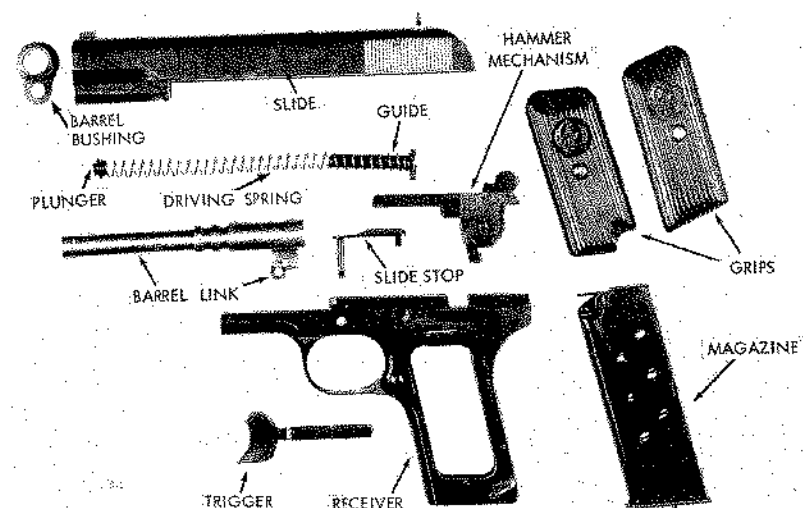
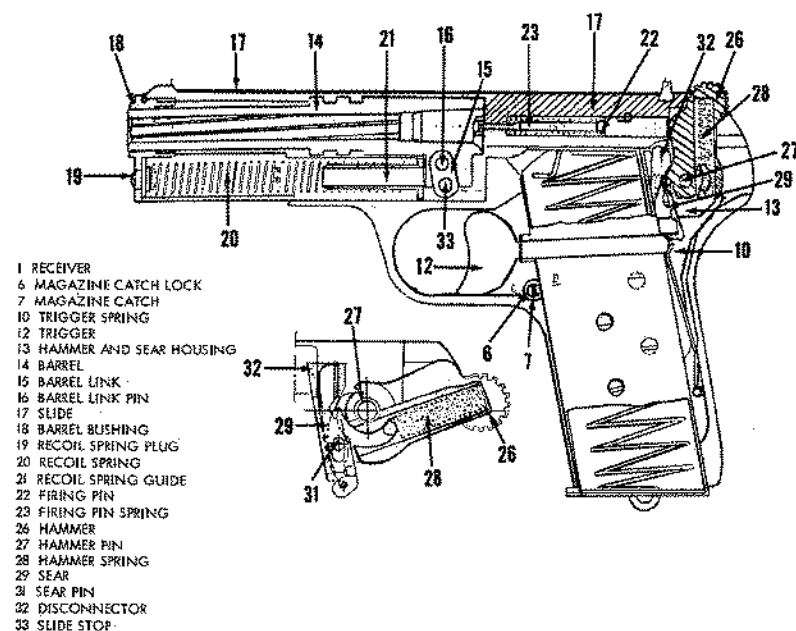
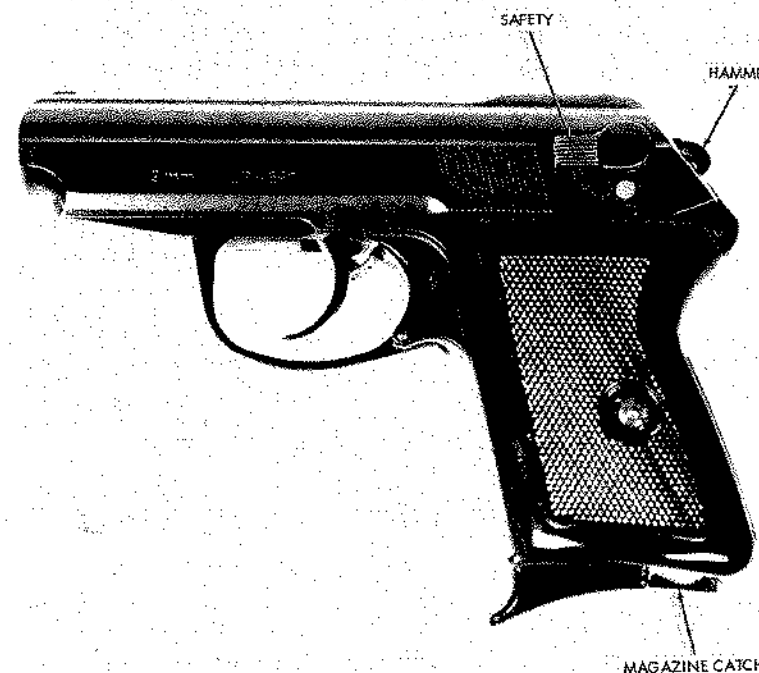

Figure 13. Tokarev pistol, disassembled.
Figure 14. Tokarev pistol, section.
Figure 15. Polish P-64 pistol.
(1) Clear the pistol (para 15d), but do not insert the magazine.
(2) Use the point of a bullet or similar item to press in the recoil spring plunger (located directly under the muzzle) to unlock the barrel bushing. Rotate the barrel bushing half a turn until it, the driving spring, and its plunger can be removed from the slide (fig 13).
(5) Hold the slide inverted and swing the barrel link forward; lift up the rear end of the barrel to disengage it from the slide, and slide the barrel forward out of the slide.
(6) If the hammer mechanism did not fall free of the receiver, pull it out of the receiver (fig 13).
(7) No further disassembly is necessary or desirable.
(1) Place the hammer mechanism into the receiver.
(2) Slide the barrel, chamber end first, into the inverted slide until it drops into the locked position. Lay the driving spring guide (rounded side up and shaft toward the muzzle) on the barrel, just forward of the turned down link.
(3) While holding the hammer mechanism in place, slide the receiver onto the slide as far as it will go. Turn the pistol upright and look through the small hole above the trigger to insure that the holes in the link (fig 13) and the receiver are lined up; if they are not, jiggle the barrel until they are, then insert the slide stop and press the retainer forward to hold the slide stop in place.
(4) Insert the driving spring into the slide and slide it over the driving spring guide. Move the hammer to the half-cock position to lock the slide in place, and carefully force the driving spring and plunger into the slide.
(5) With the smaller hole of the barrel bushing aligned with the front sight, insert the bushing into the slide, and rotate it one-half turn. The driving spring plunger will lock it in place. Insert the magazine, cock the hammer, and press the trigger.
c. The barrel is locked to the slide by ribs (machined into the outer surface of the barrel (14, fig 14)) that mesh with grooves in the slide. A link (15, fig 14) connects the movable barrel to the receiver by means of the slide stop pin; as the barrel moves to the rear in recoil, the link pivots and pulls the rear end of the barrel down to unlock it from the slide. Because of its momentum, the slide continues to the rear.
fig 13). When the slide recoils, the disconnecter is forced down, pushes the trigger extension down, and releases the sear. The sear spring then presses the sear against the hammer. As the slide continues to recoil, it rocks the hammer back so that the sear engages the sear notch on the hammer. When the slide counterrecoils, the sear holds the hammer cocked; when the slide is fully forward, the disconnecter is free to raise into the cut in the slide. This action allows the trigger bar, under the pressure of the trigger spring, to rise against the bottom of the sear. When the trigger is released, it moves forward, and as soon as the trigger bar clears the sear, the trigger spring again forces the trigger bar up into position in front of the sear. Pressure on the trigger will now fire another shot.
The P-64 (fig 14), the newest pistol used by the Polish Army, is a replacement for the old Pistolet TT (para 13). The double action P-64 bears a strong resemblance to the Soviet Makarov pistol and has some features copied from the German Walther PP pistols; it, however, is an original design. It can be identified by the inscription 9-mm "P-64" on the left side of the slide (fig 15). The P-64 pistol fires 9x18-mm cartridges (sec VI).
b. Insert the magazine into the pistol so that the magazine catch (fig 15) retains the magazine. Grasp the slide by the grooves and pull it fully to the rear against the pressure of the driving spring. Release the slide; the driving spring will force it forward, loading the pistol.
e. Before the slide recoils, the disconnector projects upward from the hammer mechanism into a cut in the slide (fig 14). When the slide recoils, the disconnector is forced down, pushing the trigger extension down and releasing the sear. The sear spring then presses the sear against the hammer. As the slide continues to recoil, it rocks the hammer back so that the sear engages the sear notch on the hammer. When the slide counterrecoils, the sear holds the hammer cocked; when the slide is fully forward, the disconnector is free to raise into the cut in the slide. This action allows the trigger bar, under the pressure of the trigger spring, to rise against the bottom of the sear. When the trigger is released, it moves forward. As the trigger bar clears the sear, the trigger spring again forces the trigger bar up into position in front of the sear. Pressure on the trigger will now fire the pistol again.